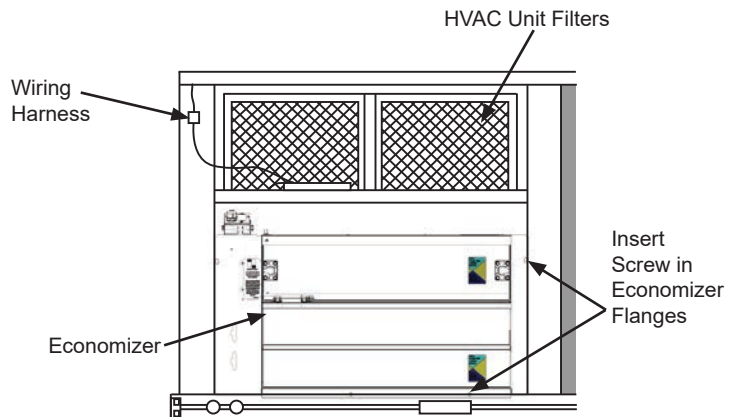

Fig. 3 - Economizer Installed on HVAC Unit (ECD-SRT12CA-D2*H Shown)
Step 4: Slide the economizer assembly into the rooftop unit. See Figure 3.
Step 5: Ensure economizer is square (tolerance +/- 1/32"). Screw the economizer to the unit along both side flanges and bottom flange. See Figure 3.